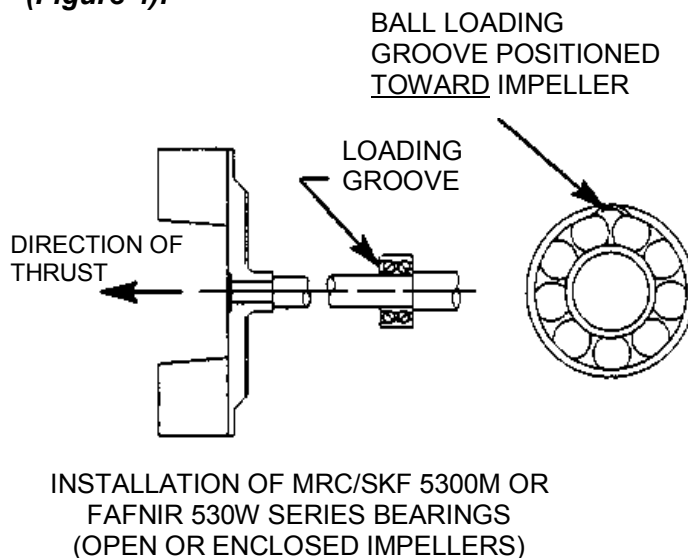

Figure 4. Inboard Bearing Positioning
Position the inboard bearing (4) on the shaft as indicated by the following illustration (Figure 4).